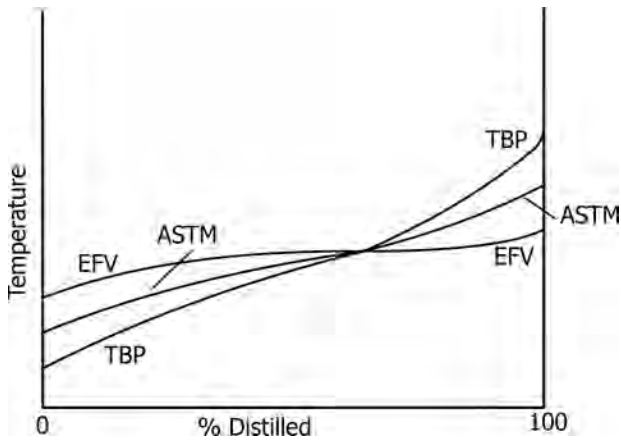

FIGURE 17.11 Relative positions of EFV, ASTM, and TBP curves on a plot of percent distilled versus temperature.
- Figure 17.11 illustrates the relative positions of EFV, ASTM, and TBP curves for a petroleum fraction.